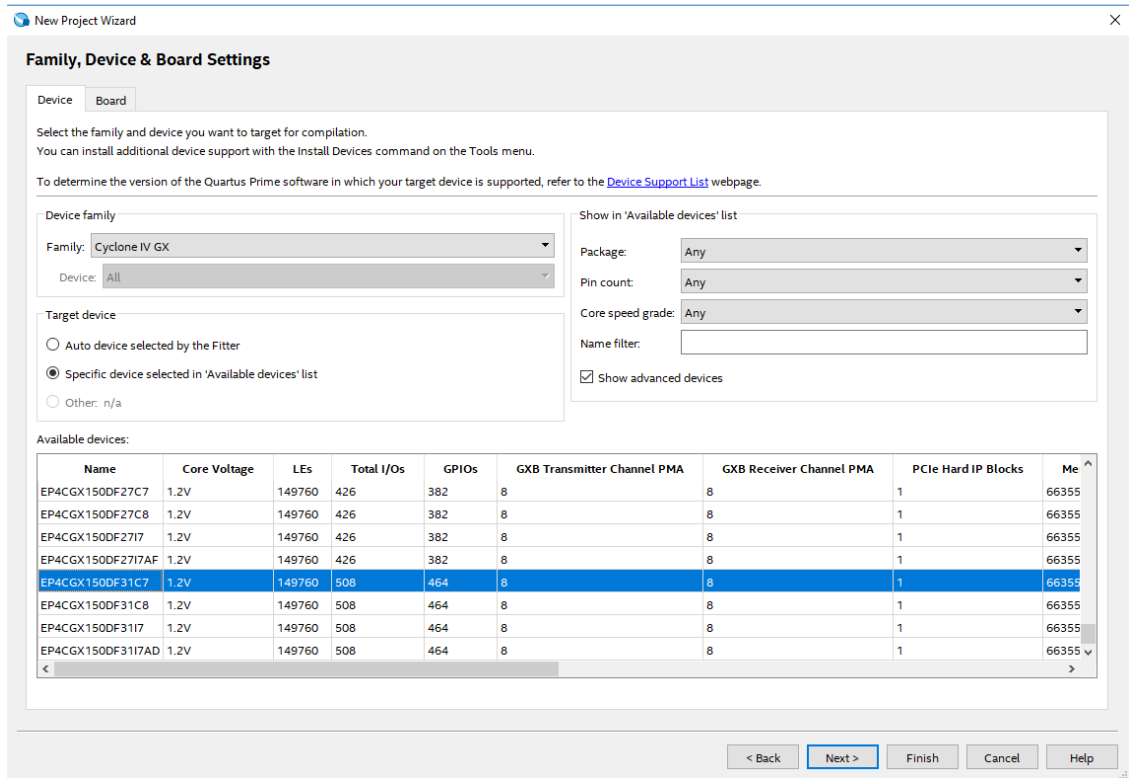

Figure 1-3 New projects wizard Family, Device, & Board Settings
- 2.) Click **Next** through the windows until you get to the **Family, Device, & Board Settings** window. You will then choose your Device Family and the device name as in Figure 1-3. We are using the De2i-150 board, so we choose **Cyclone IV GX** with name **EP4CGX150DF31C7**.